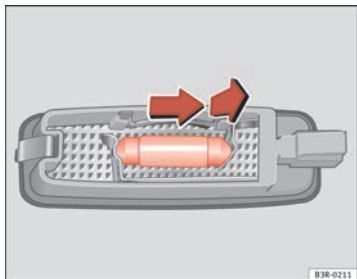

Fig. 244 Removing sun visor light
- Remove the bulb, moving it in the direction of the arrow and outwards ⇒ fig. 244. ■